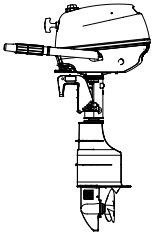
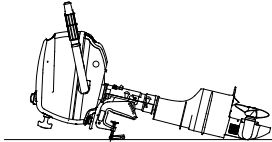
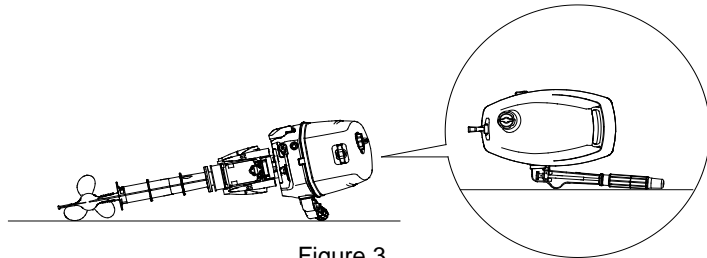

Figure 1
Figure 2
Figure 3
The outboard motor should be upright as shown in the following figure 1 when be in transit. If the engine must be laid down, please be sure to put it as shown in the following figure 2 or figure 3 when be in transit.
- Place a towel or something similar under the outboard motor to protect it from damage when as shown in the figure 2 or figure 3 above.